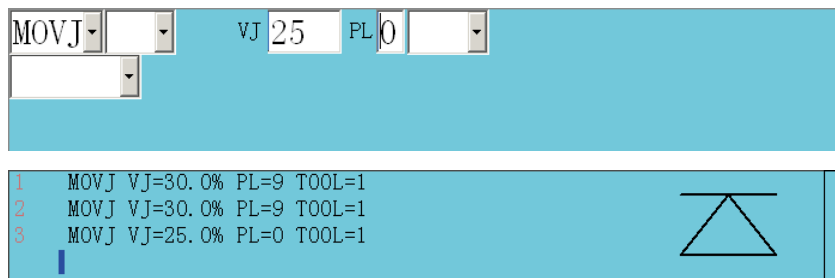

Fig.7.11
4. Repeat step 2 or 3 to edit program point 3. Then change VJ speed to 25% and PL value to 0. Enter the command line of program point 3, as shown in Fig.7.11.